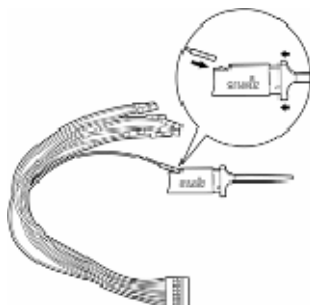

Fig. 2-9
- 3-1. Take the loose end of the cable and insert it into the clip (Fig. 2-9).
- 3-2. Compress the probe as shown to reveal two metal prongs (Fig. 2-9).